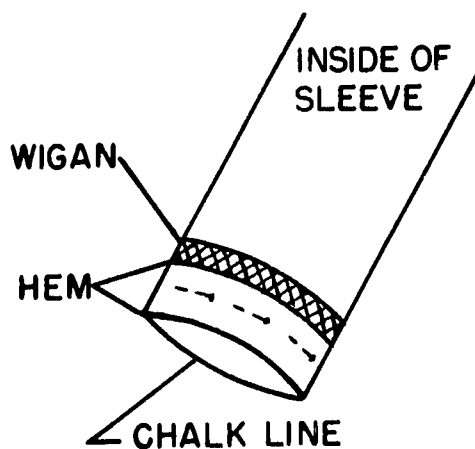

Figure 43.
8. Turn the hem up all the way around the sleeve on the chalk line and insert pins every inch. Position the hem so the hem seam and sleeve seam will meet. Check to see that the wigan lies smooth and flat (see Figure 43).